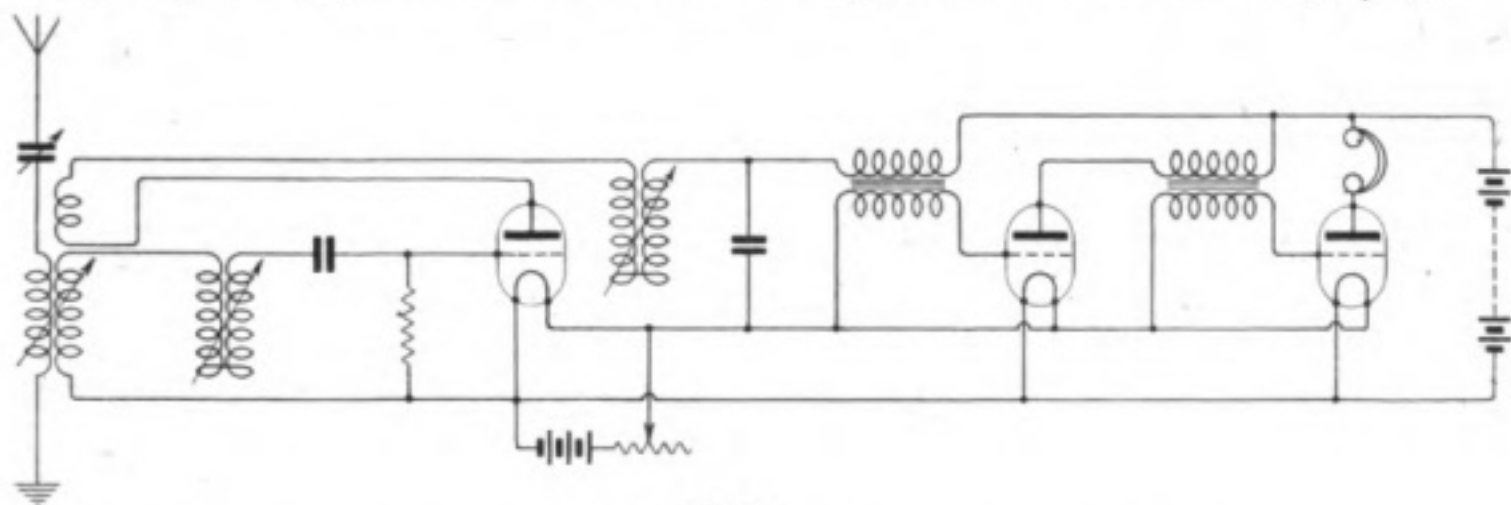

Fig. 7.
(1) No, we do not like this arrangement at all. The nearest satisfactory approach to it is the American short-wave tuner of June 3rd issue of which it appears to be a poor copy. The grid leak should go from the grid to the filament, not as shown. (2) and (3) This type of construction is unsuitable for such a range of wavelengths, and we cannot give the desired figures. (4) See diagram (Fig. 7) for a possible variation of this type.